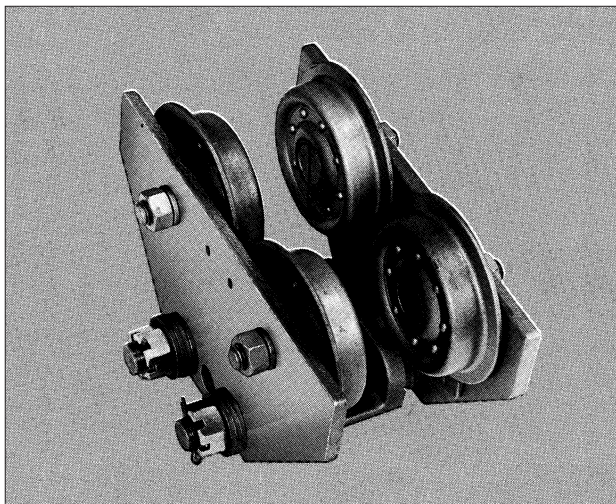

Figure 7. Series 635 Low Headroom Trolley
(See Figure 7)
1. Arrange the side frames, load bracket, spacer washers and nuts on the suspension bolts according to Figure 7 and Table 2. Do not assemble cotter pins to the bolts.